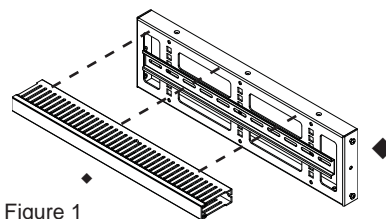

Figure 1
Step 2. Align wire duct's ◆ inside open slots with 3 screw holes on top and bottom edge of Main Panel ◆. Secure them with M4x8 screws. (Figure 1)